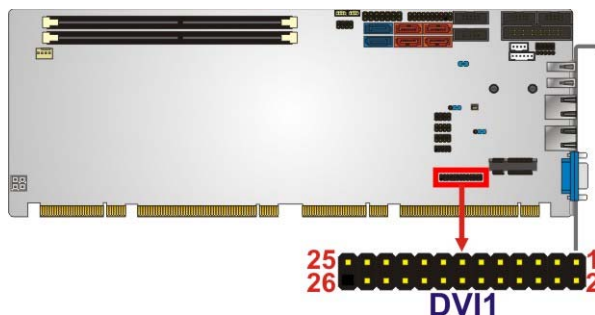

Figure 3-7: DVI-D Connector Location
- CN Location:** See **Figure 3-7**